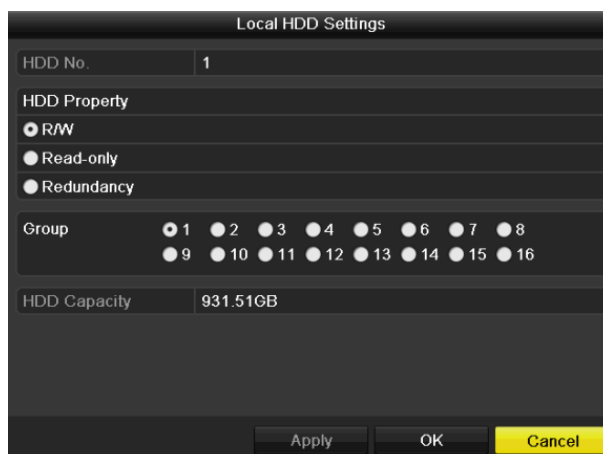

Figure 13. 15 Set HDD Property
2. Select HDD from the list and click the  icon to enter the **Local HDD Settings** interface, as shown in Figure 13. 15.